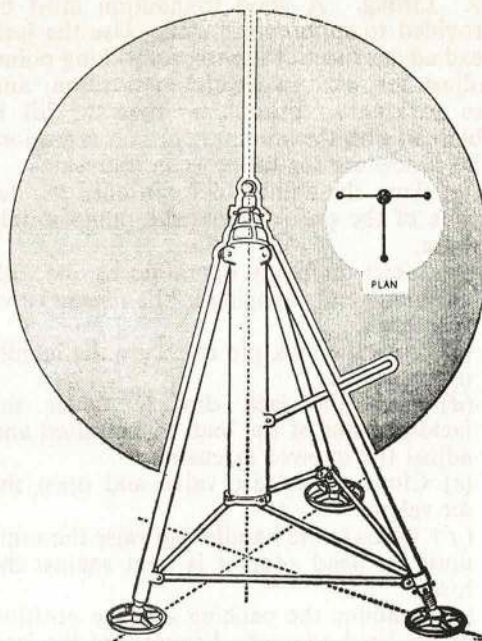

Fig. 4. BIPOD JACK
26. A bipod jack (Fig. 4) has two legs in the same vertical plane as the lifting axis. These two legs, which rest upon swivelling feet and support the load, are the bipod or load legs and they are free to tilt through a small angle. The third or trailing leg can be adjusted to steady the bipod legs as they tilt during a lifting operation. This type of jack can thus be used where the jacking point moves laterally as the lift is taken, for example when raising one side of an aircraft for the purpose of changing a wheel. The hydraulic mechanism is similar to that of the tripod jacks.